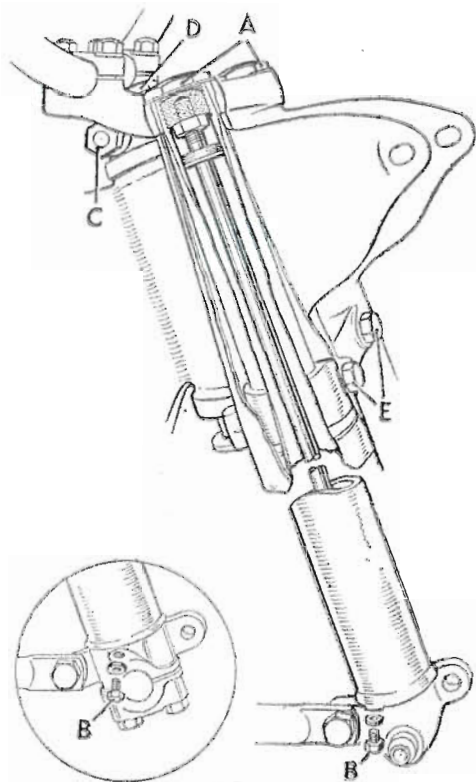

Fig. 23.
Unscrew the nuts (A) Fig. 23, and the drain plugs in the lower end of the fork sliding members as shown at (B). Allow all the oil to drain out, then standing astride the machine, apply the front brake and depress the forks a few times to drive out any oil remaining in the system.
Slacken the clamping nuts (C) and (E) Fig. 23, then tighten down the cap nut (D) below the handlebars until the adjustment is correct. Hold the handlebars lightly and move them round slowly. The steering must be free, and the forks must rotate smoothly. If the movement is "lumpy" it is a sign that the adjustment is too tight or that the ballraces are damaged. When the adjustment is correct, tighten the clamping nuts (C) and (E). The latter clamp the fork shafts and must be quite tight.